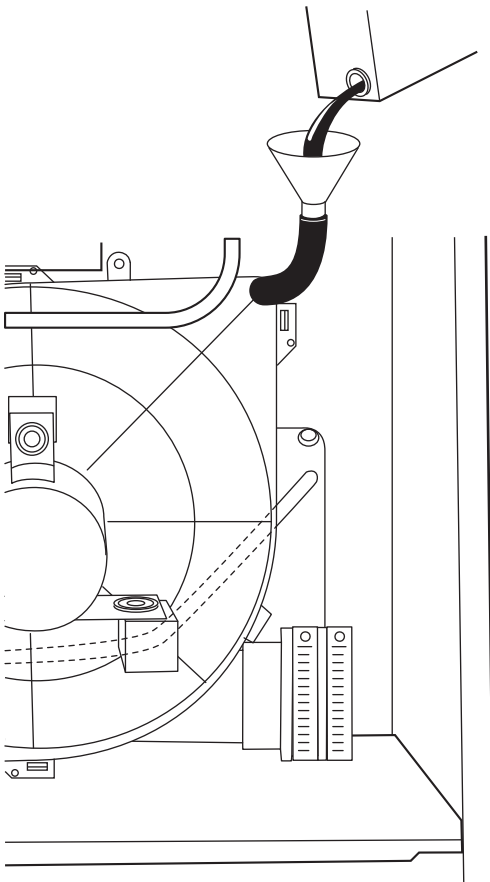

Fig. 42 - Filling Condensate Trap
4. Pour 1 quart of water into funnel/tube. Water should run through inducer housing, overflow condensate trap, and flow into open field drain. (See Fig. 42.)